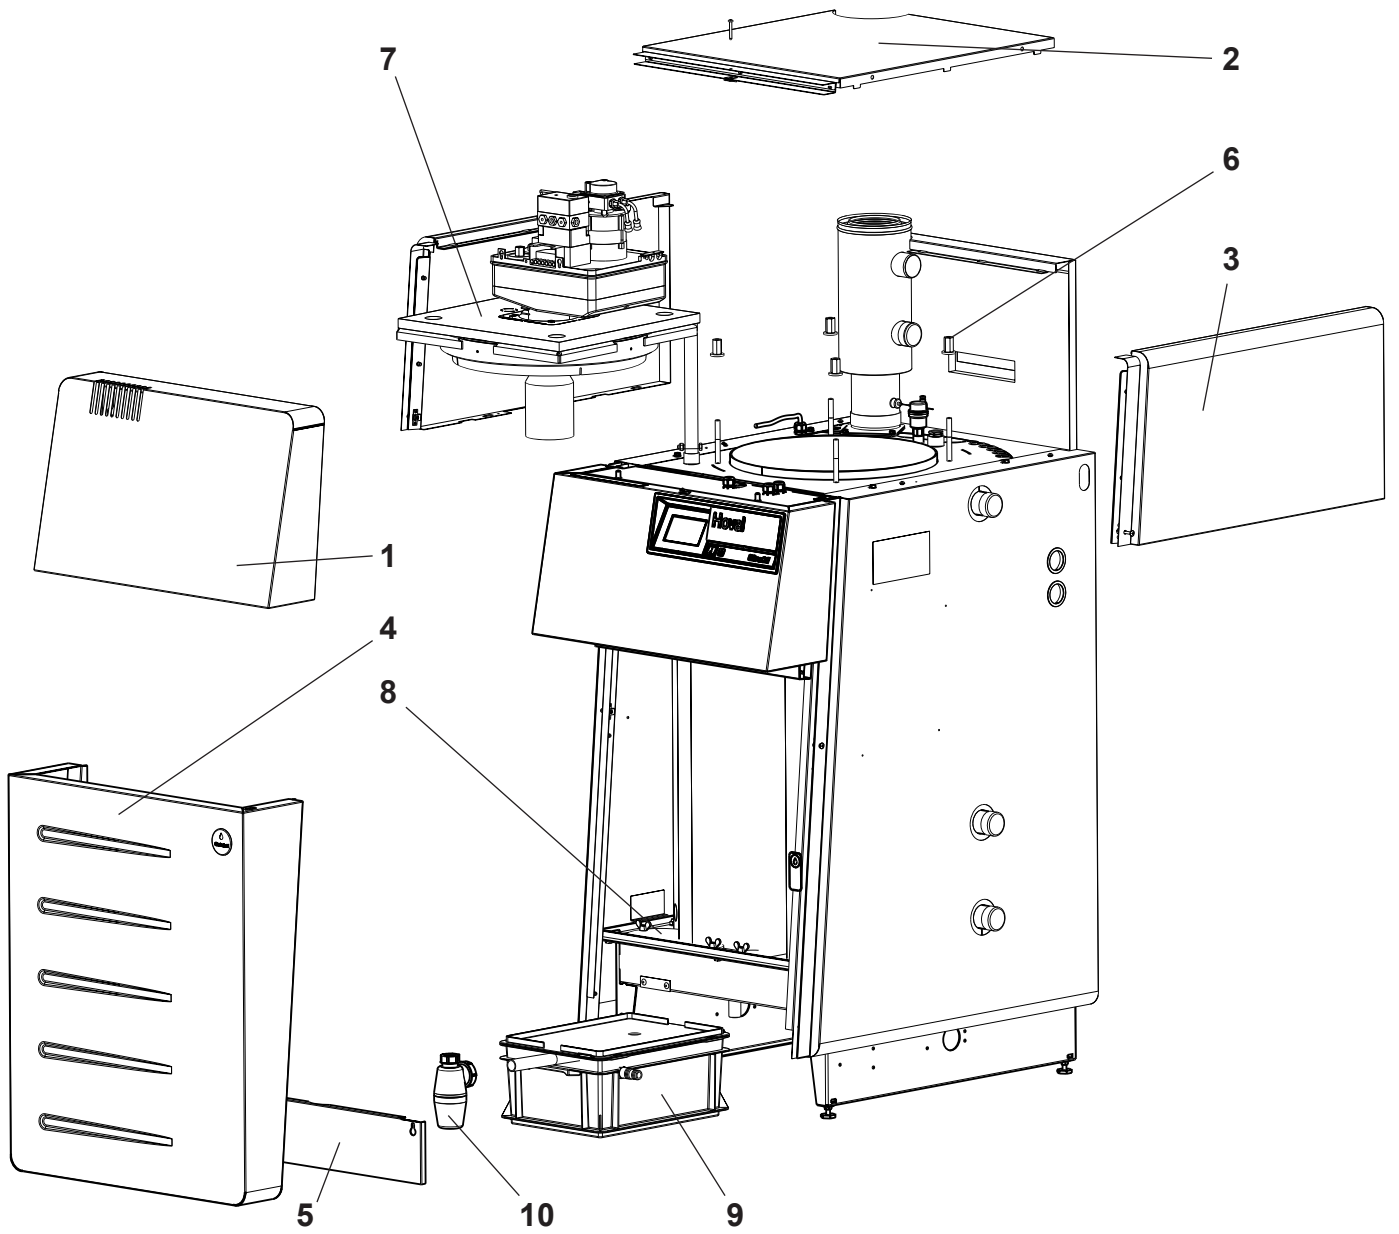

Fig. 22
- Remove the front cover (1, Fig. 22), lid (2) and side walls (3) (see chapter 2.3, step 1-4).
- Remove lower front cover (4) (see chapter 4.4, step 3).
- Remove base plate (5), by lifting it straight upwards and off.
- Undo the locknuts (6).
- Draw the burner with the boiler door (7) upwards, turn it sideways and let it down again.
- Remove the lid to the cleaning aperture (8).
The siphon must be cleaned once a year. For cleaning the siphon the siphon bottom part (10 Fig. 22) must be removed.